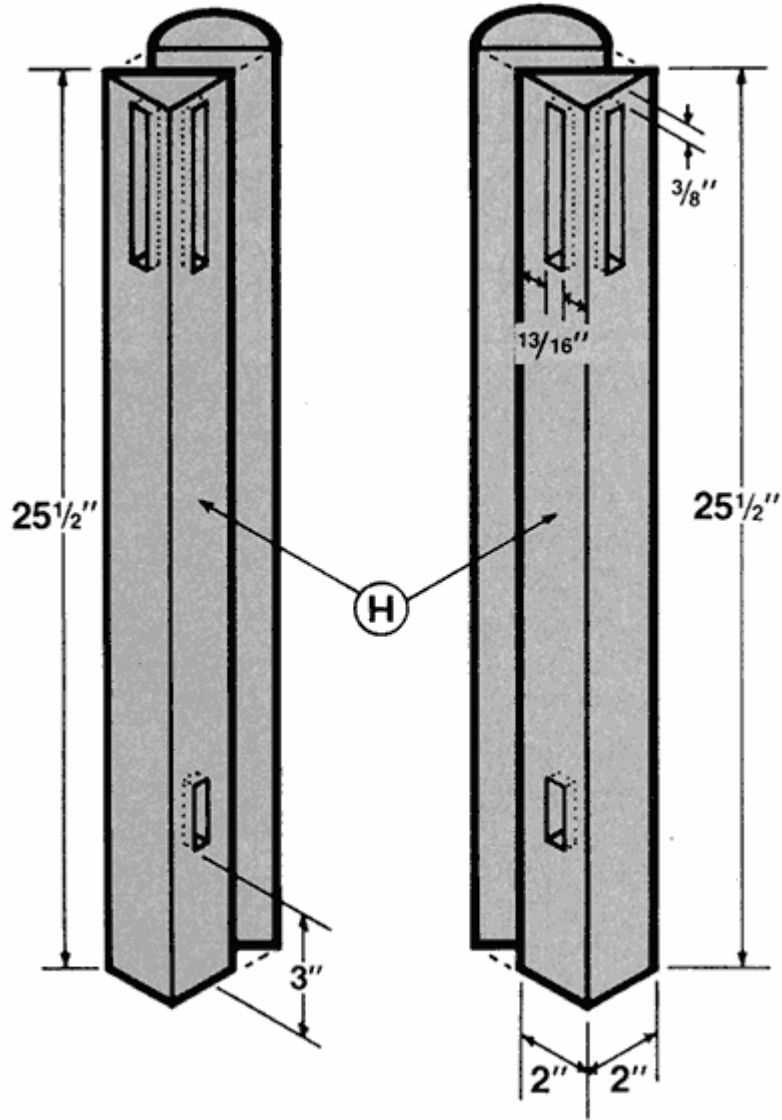

Figure 1
- 1:** Glue-up the stock you'll need to create the Table Top (A) and allow it to dry thoroughly for 24 hours.
- 3:** Cut two pieces of stock to 2" x 2" x 25-1/2". Tilt your MARK V's Saw Table to 45- degrees and rip each of these two pieces lengthwise to make four right-triangle-shaped Legs (H). **See Fig. 1.** Using a 3/8" Round-Over Router Bit to lightly round off all three edges of the triangular shape, the full length of all four Legs (H).
10: Cut the 4-1/2" x 3/8" x 3/8" - and 1-3/4" x 3/8" x 3/8" mortises in the Legs (H). Follow the diagrams in **Fig. 1.** carefully for placement of these mortises, especially at the bottoms (See **Fig. 1.**).